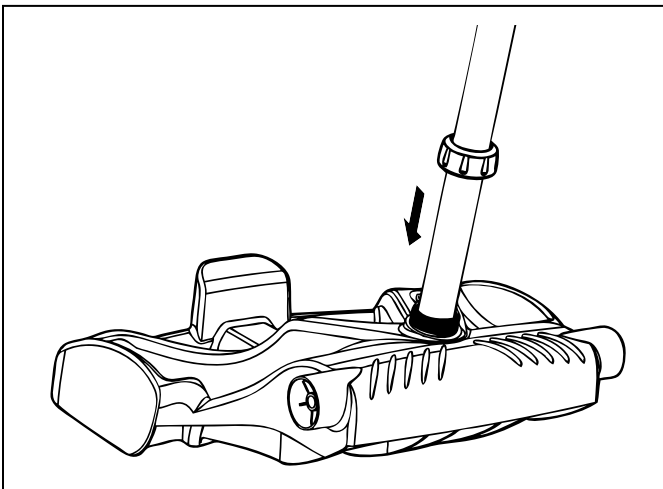

Figure 4. Twist Handnut to Secure Frame
4. Slide the handnut over the tube and twist to tighten onto base unit (Figure 4).